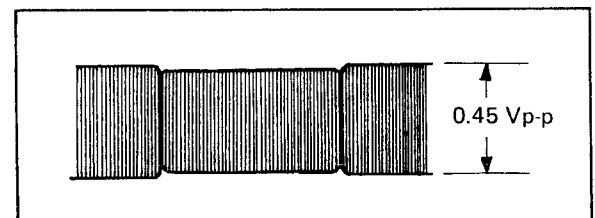

Fig. 6-29
3. Adjust R55 (FM LEVEL) of the Pre/Record board, so that the level of TP-5 is 0.45 Vp-p as shown in Fig. 6-29.